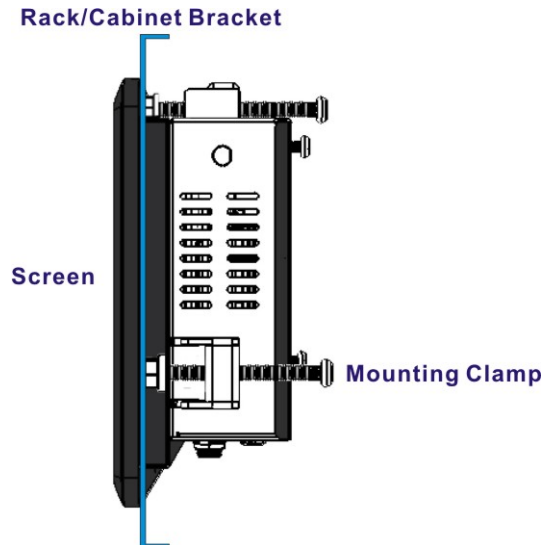

Figure 3-15: Secure the Rack/Cabinet Bracket
- Step 2:** Insert the mounting clamps into the mounting brackets and pre-formed holes along the edges of the PPC-F06B-BT, behind the aluminum frame (**Figure 3-15**). There are a total of four mounting clamps required.
- Step 3:** Tighten the screws that pass through the mounting clamps until the plastic caps at the front of all the screws are firmly secured to the bracket (**Figure 3-15**).